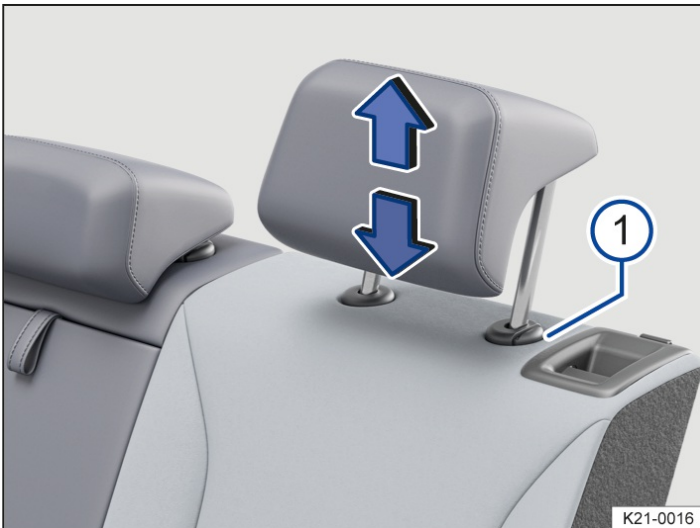

Fig. 2 Rear head restraint: adjusting(illustration).
1. While pressing the button → Fig. 2 ¹ if necessary, push the head restraint up or down in the direction of the arrows.